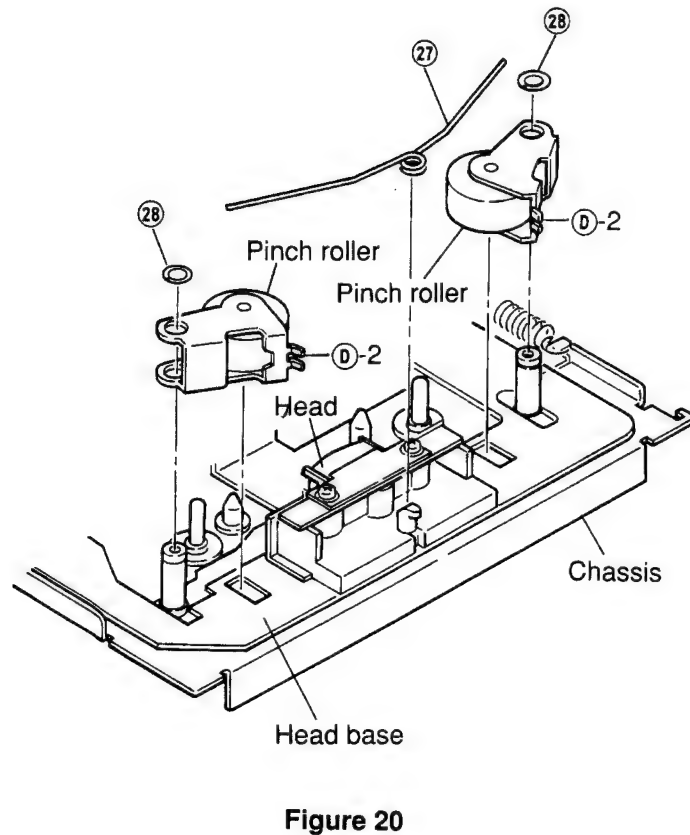

Figure 20
- (1) Remove pinch roller spring ②⑦ as shown in Figure 20.
- (2) Remove M3.1 two lock washers ②⑧ and remove the pinch roller as shown in Figure 20.
- (3) Mount the pinch rollers following the removal steps in the reverse order.
Apply insulation coating to the position ②⑧-2 of the pinch roller as shown in Figure 20.